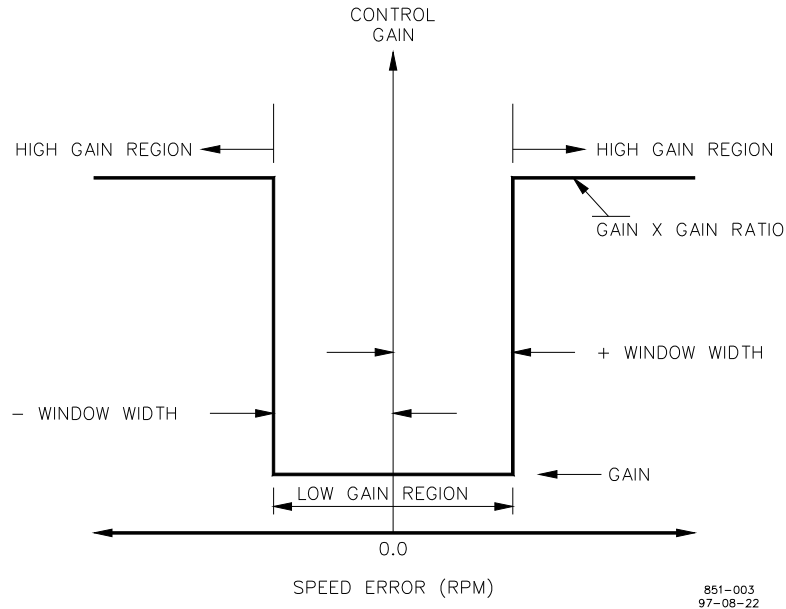

Figure 3-2. Control Gain as a Function of Speed Error
Dynamic adjustments are settings that affect the stability and transient performance of the engine. There is only one set of effective dynamics provided. The following descriptions of each menu item apply. Also see Figures 3-2, 3-3, and 3-4.
5. **GAIN RATIO** is the ratio of the Gain setting at steady state to the Gain setting during transient conditions. The Gain Ratio operates in conjunction with the Window Width and Gain adjustments by multiplying the Min and Rated Gain set points by the Gain Ratio when the speed error is greater than the Window Width. This makes the control dynamics fast enough to minimize engine speed overshoot on start-up and to reduce the magnitude of speed error when loads are changing. This allows a lower gain at steady state for better stability and reduced steady-state actuator linkage movement. (See Figure 3-2.)
6. **WINDOW WIDTH** is the magnitude (in rpm) of a Compensated speed error (E_c) at which the control automatically switches to fast response. The control uses the absolute value of Compensated speed error (E_c) to make this switch. The absolute value is the difference between the speed reference (N_r) and the Compensated speed (N_c). A Window Width too narrow will result in cycling that always turns on the Gain Ratio. (See Figure 3-2.)